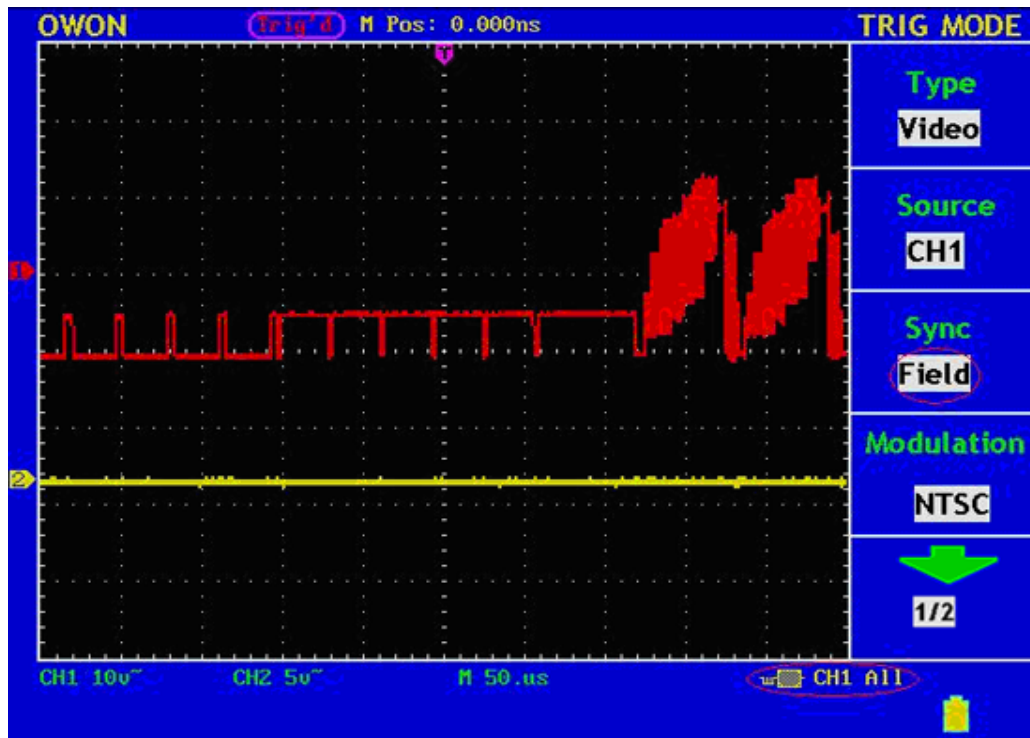

Fig. 71 Wave Form Obtained from Video Field Trigger
5. Adjust the **VOLTS/DIV**, **VERTICAL POSITION** and **SEC/DIV** knobs to obtain a proper wave form display (see Fig.71).